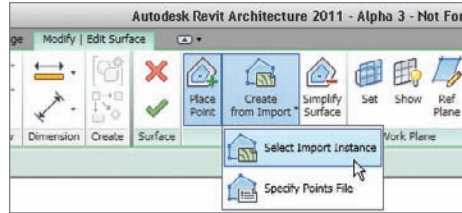

FIGURE 18.25 Select Import Instance command
10. On the Tools panel, click Create From Import > Select Import Instance, as shown in Figure 18.25.